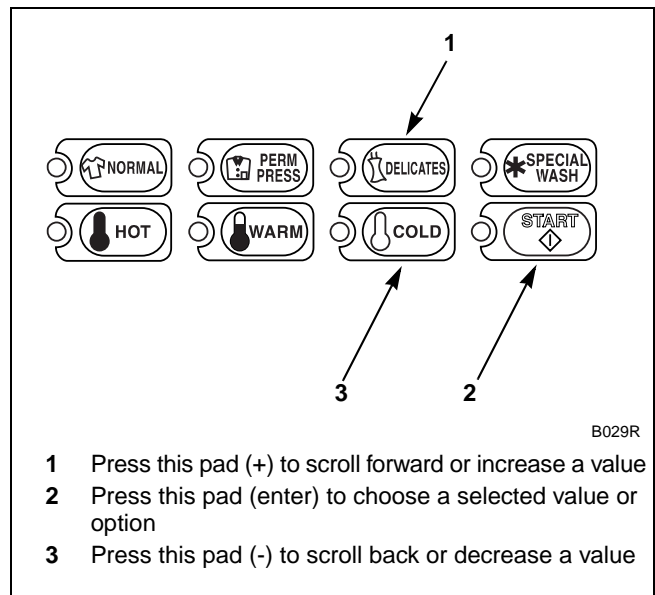

Figure 46
5. Press the DELICATES (+) or the COLD (-) keypad to increase or decrease the current length of hours to the desired number of hours. Refer to *Figure 46*.